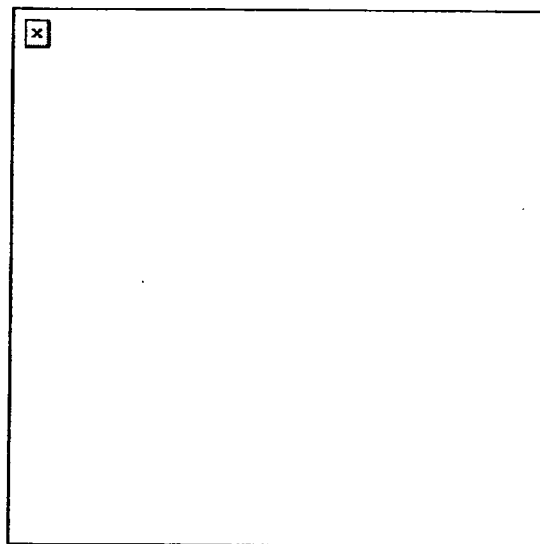

Figure 6. Recoil spring and spring guide.
- d. Insert the recoil spring guide into the recoil spring (Figure 6).